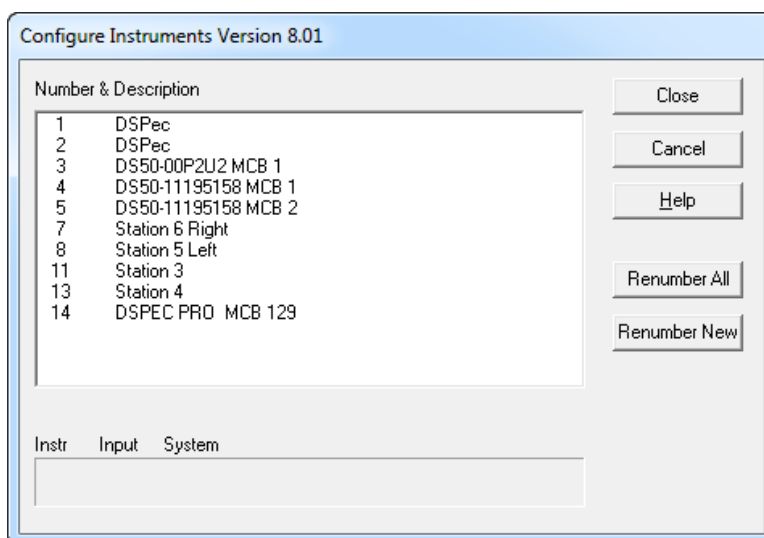

Figure 5. MCB Numbering and Descriptions.
- 3) To start the software, type `mcb` in the “Search programs and files” box on the Windows Start menu, then click the **MCB Configuration** search result; or open the Windows Start menu and click **MAESTRO**, then **MCB Configuration**. The MCB Configuration program will locate all of the powered-on ORTEC MCBs on the local computer and the network, and display the list of instruments found (the *Master Instrument List*; Fig. 5). If you wish, you may enter customized instrument ID numbers and descriptions (Section 2.2.4.2). When you close the dialog, any changes you have made to an ID number or description will be written back to the corresponding MCB.